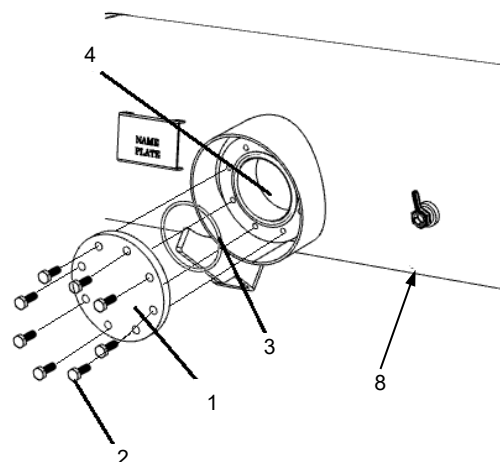

Figure 1:
3. Drain Fuel Tank (8). Refer to Fuel Tank Drain Procedure. *Figure 1*
4. Remove Fuel Tank (8) Access Cover (1) Retaining Bolts. *Figure 1*
5. Remove Fuel Tank Access Cover (1). *Figure 1*
6. Remove Fuel Tank Access Cover (1) O-ring (3). *Figure 1*
8. Remove Fuel Tank Pass-Through Wiring (9) from Tank (8) through Access Opening (4). *Figures 1 & 2*
3. Install new Fuel Tank Access Cover O-ring (3). *Figure 1*
4. Install Fuel Tank Access Cover (1). *Figure 1*
5. Install Fuel Tank Access Cover Retaining Bolts (2).
Refer to *Fuel System Torque and Tightening Specifications. Figure 1*